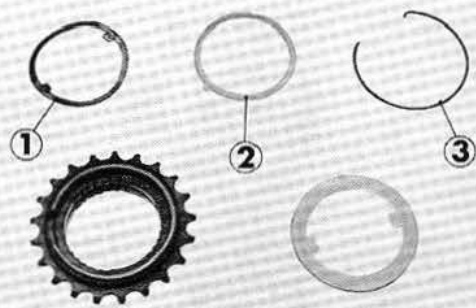

Fig. 4-17 ① Freewheel spring B ② 50 mm thrust washer B ③ 61 mm circlip
3. Remove the 61mm circlip and disassemble the 50 mm thrust washer B, free wheel spring B. (Fig. 4-17)